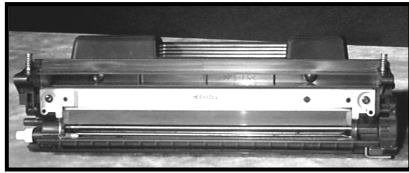

Figure 14
- Remove the two (2) screws holding the doctor blade in place (fig. 14). Use compressed air or a vacuum to remove residual toner from the blade. Inspect the mag roller mylar for damage and replace if necessary.